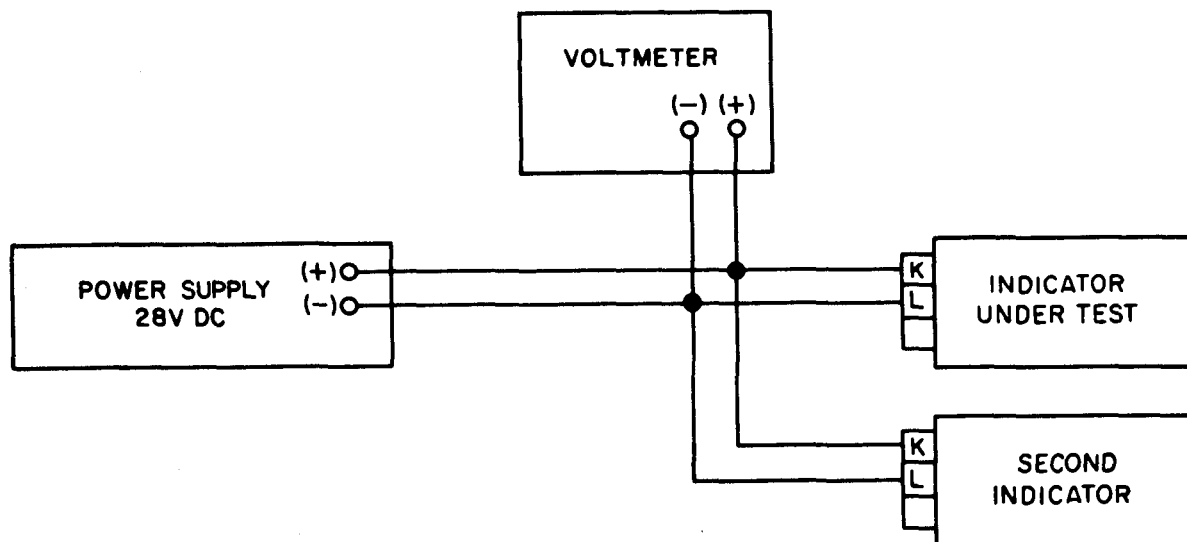

Figure 3-4. Lighting Test Setup.
a. Connect the indicator as shown in figure 3-4 and apply power.